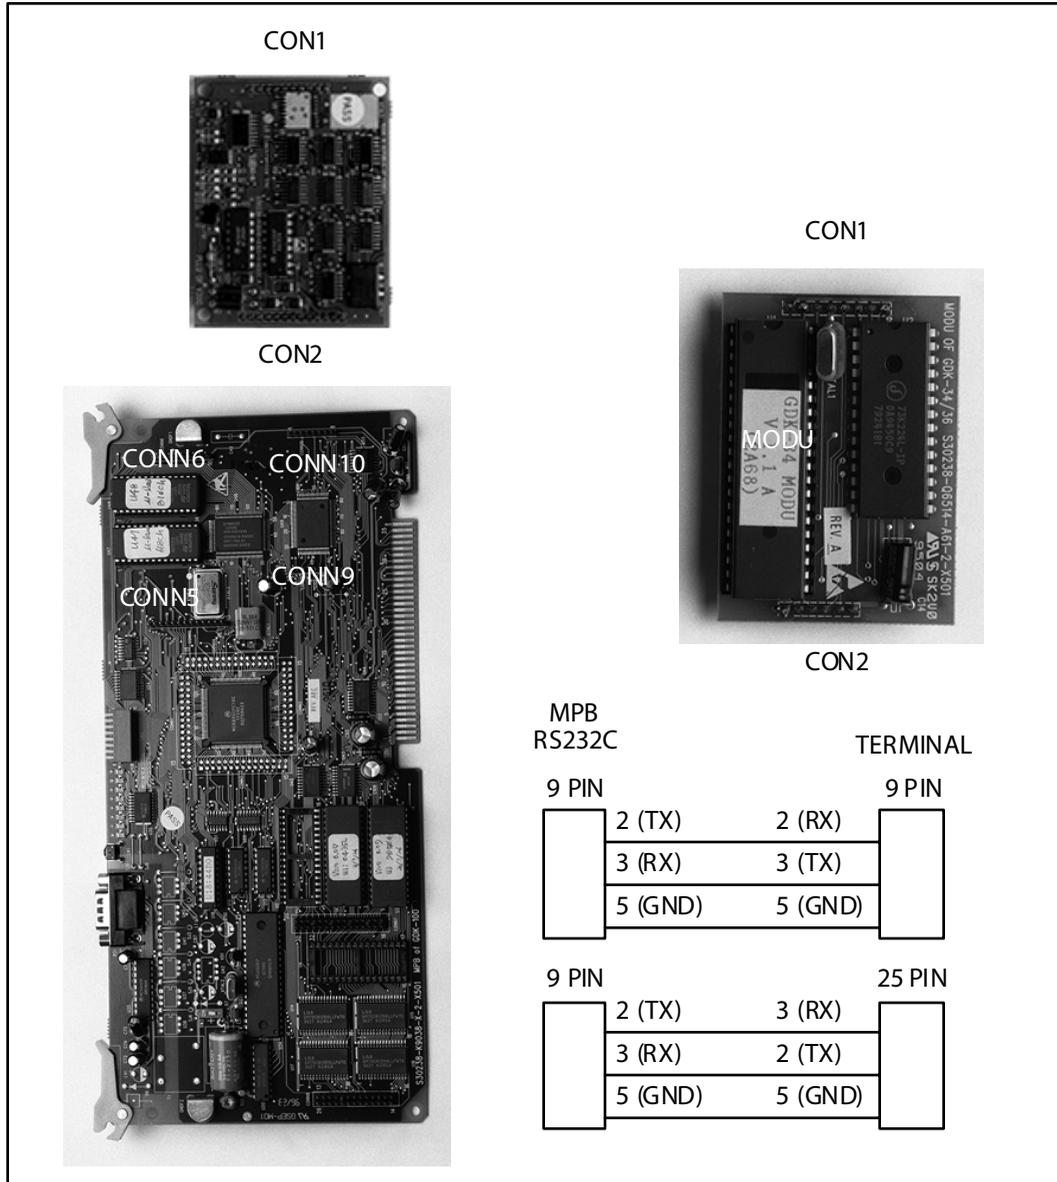

Figure 2-12: MPB w/PLLU and MODU Installation
The MPB may be equipped with three daughter boards: A MEMU for memory expansion, a MODU for modem access to the system, and a PLLU for T-1 synchronization. Refer to Figure 2-12. The MEMU is not utilized at this time.
4. With the lithium batteries and daughter boards installed, insert the MPB in slot MPB of the BKSU. Refer to Figure 2-12.
Refer to Figure 2-12. This completes the installation procedure for the PLLU.
Refer to Figure 2-12. This completes the installation procedure for the MODU.